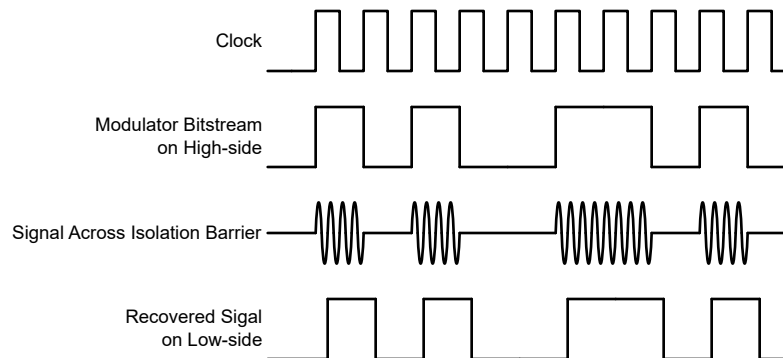

图 7-3. OOK-Based Modulation Scheme
The AMC1306M05-Q1 uses an on-off keying (OOK) modulation scheme, as shown in 图 7-3, to transmit the modulator output bitstream across the SiO2-based isolation barrier. The transmit driver (TX) shown in the Functional Block Diagram transmits an internally generated, high-frequency carrier across the isolation barrier to represent a digital *one* and does not send a signal to represent a digital *zero*. The nominal frequency of the carrier used inside the AMC1306M05-Q1 is 480 MHz.